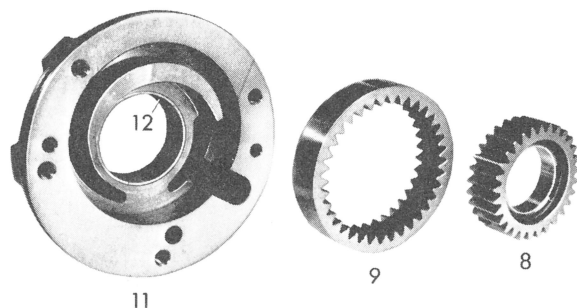

Fig. 5
6 Remove primary pump gears (8) and (9) from pump housing (11) (Fig. 5).
The bevelled outer edge of the pump gear (9) should face the bronze bushing (12) (Fig. 5).